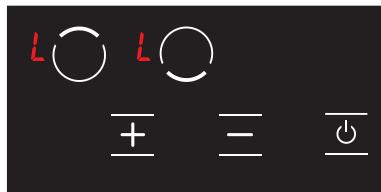

Figure 17
1. The L icon is displayed on all displays when the stove is on and the child lock is active. (see Fig. 17) The L and H icons are displayed alternatively if any hob is hot. You may turn the stove on or off with the \ominus key only.